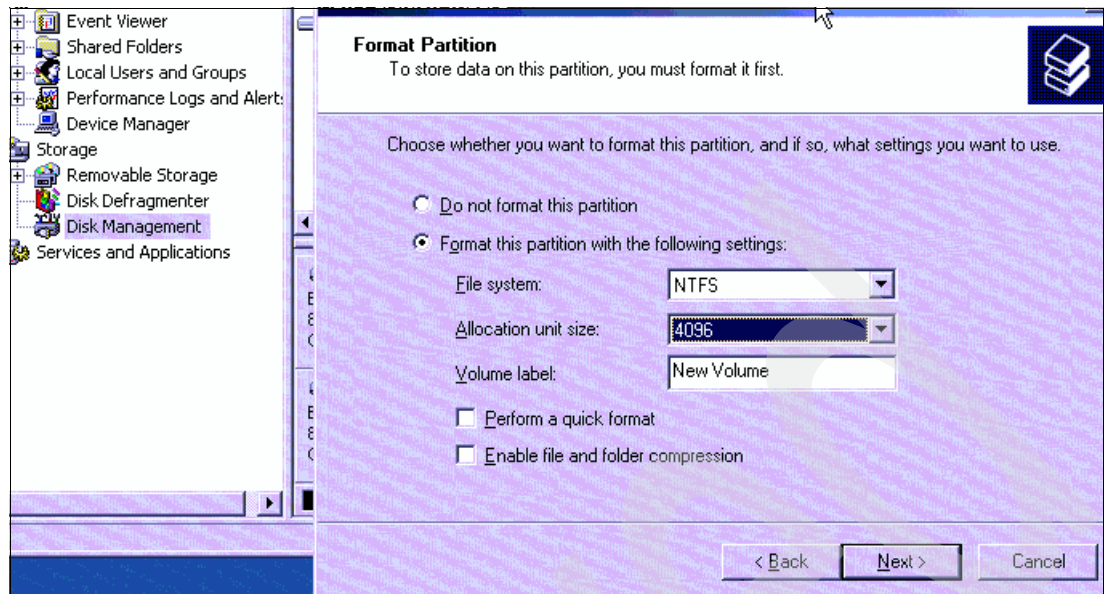

Figure 4-77 Formatting the drive
x. In Figure 4-77 on page 105, format the drive as NTFS and set the allocation size to 4096 or larger.